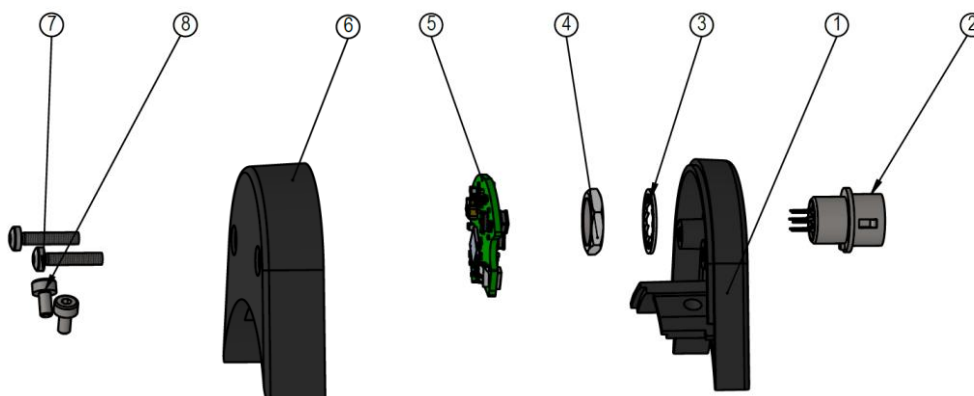

Figure 1: Assembly of ECC-1C
- 152-219-00: CAB-6-100-M-OE - Hirose to open-ended wire cable, 1 m (pinout in Figure 1)